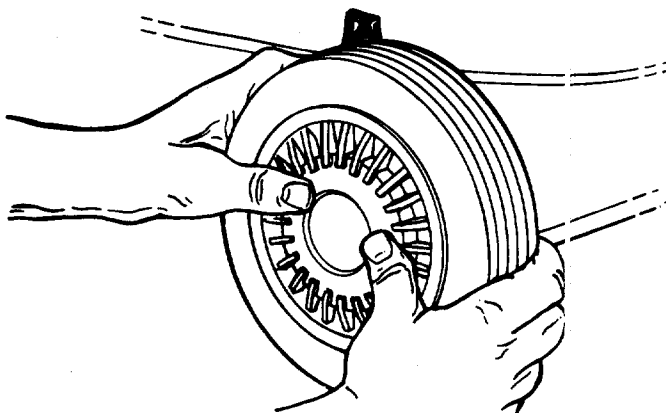

FIGURE 6.—5 1/2" Diameter Hub Cap Shown
1. Place hub caps in position against the inner hub of the wheel. To install 5 1/2" diameter hub caps, press firmly around the center portion of hub cap in a circular motion, similar to installing a lid on a round, plastic container. See figure 6. The hub caps are flexible and will snap over wheel hubs.